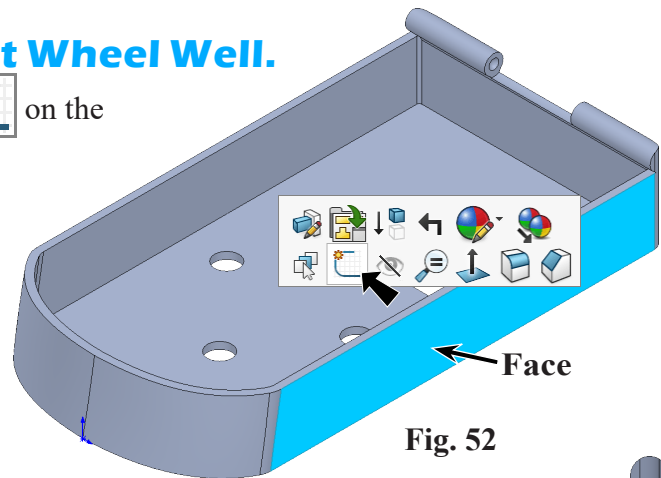

Fig. 52
Step 1. Click the **side face** and click **Sketch**  on the context toolbar, **Fig. 52**.